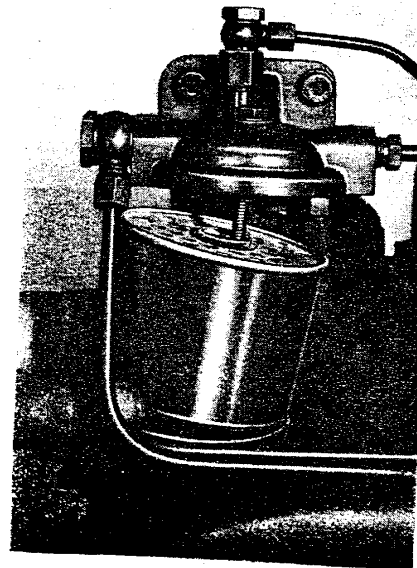

Fig. 8.
3. Lower base and discard element (see fig. 8).